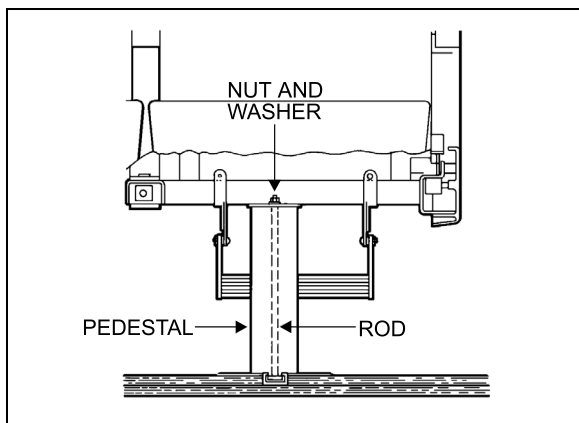

FIGURE 92: SEAT PEDESTAL ASSEMBLY
6. Apply floor covering adhesive (680028) onto plywood using a serrated spreader with 1/8-inch serration. If required, apply contact adhesive (3M) (684655 or 684654) onto aluminum molding and also onto section of floor covering, which will be in contact with molding (refer to Figure 92).